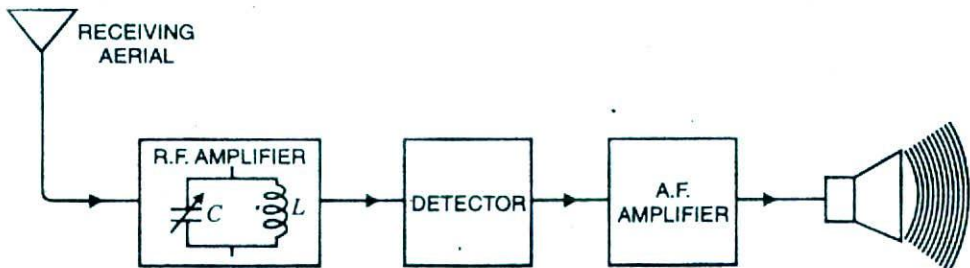

Fig. 18.15
1. Straight radio receiver. Fig. 18.15 shows the block diagram of a straight radio receiver. The aerial is receiving radio waves from different broadcasting stations. The desired radio wave is selected by the R.F. amplifier which employs a tuned parallel circuit. The selected radio wave is amplified by the tuned r.f. amplifiers. The amplified radio wave is fed to the detector circuit. This circuit extracts the audio signal from the radio wave. The output of the detector is the audio signal which is amplified by one or more stages of audio-amplification. The amplified audio signal is fed to the speaker for sound reproduction.